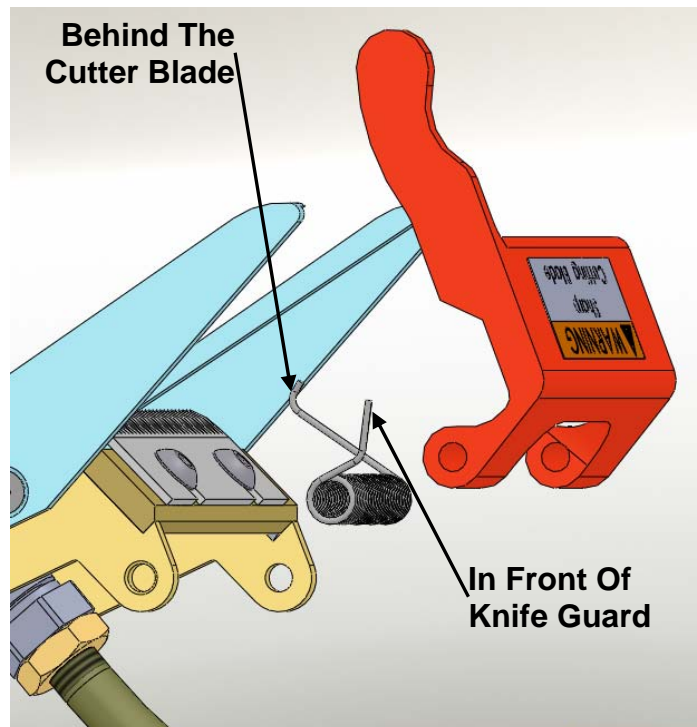

Figure 10-18
1. Position the new knife spring as shown in **Figure 10-18**.